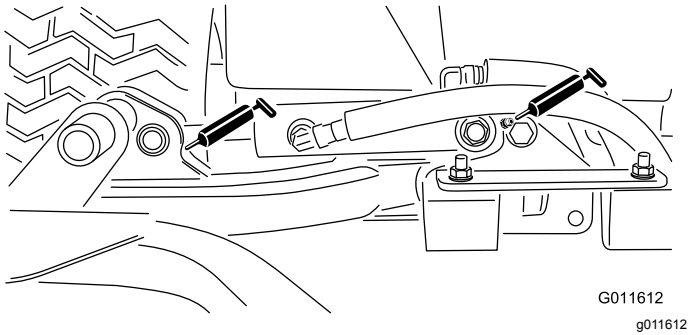

Figure 44
- Cutting unit lift arm cylinders (2 each) (Figure 44)
- Lift arm pivots (1 each) (Figure 44)